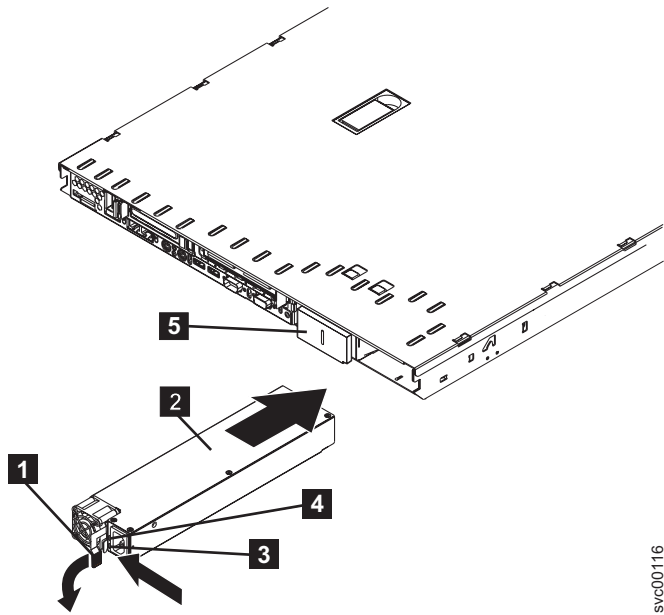

Figure 160. SAN Volume Controller 2145-8F2 power supply
- a. Rotate the handle **1** down on the rear of the power supply to the open position, and then slide the power supply forward into the power-supply bay, as shown in Figure 160 on page 177.